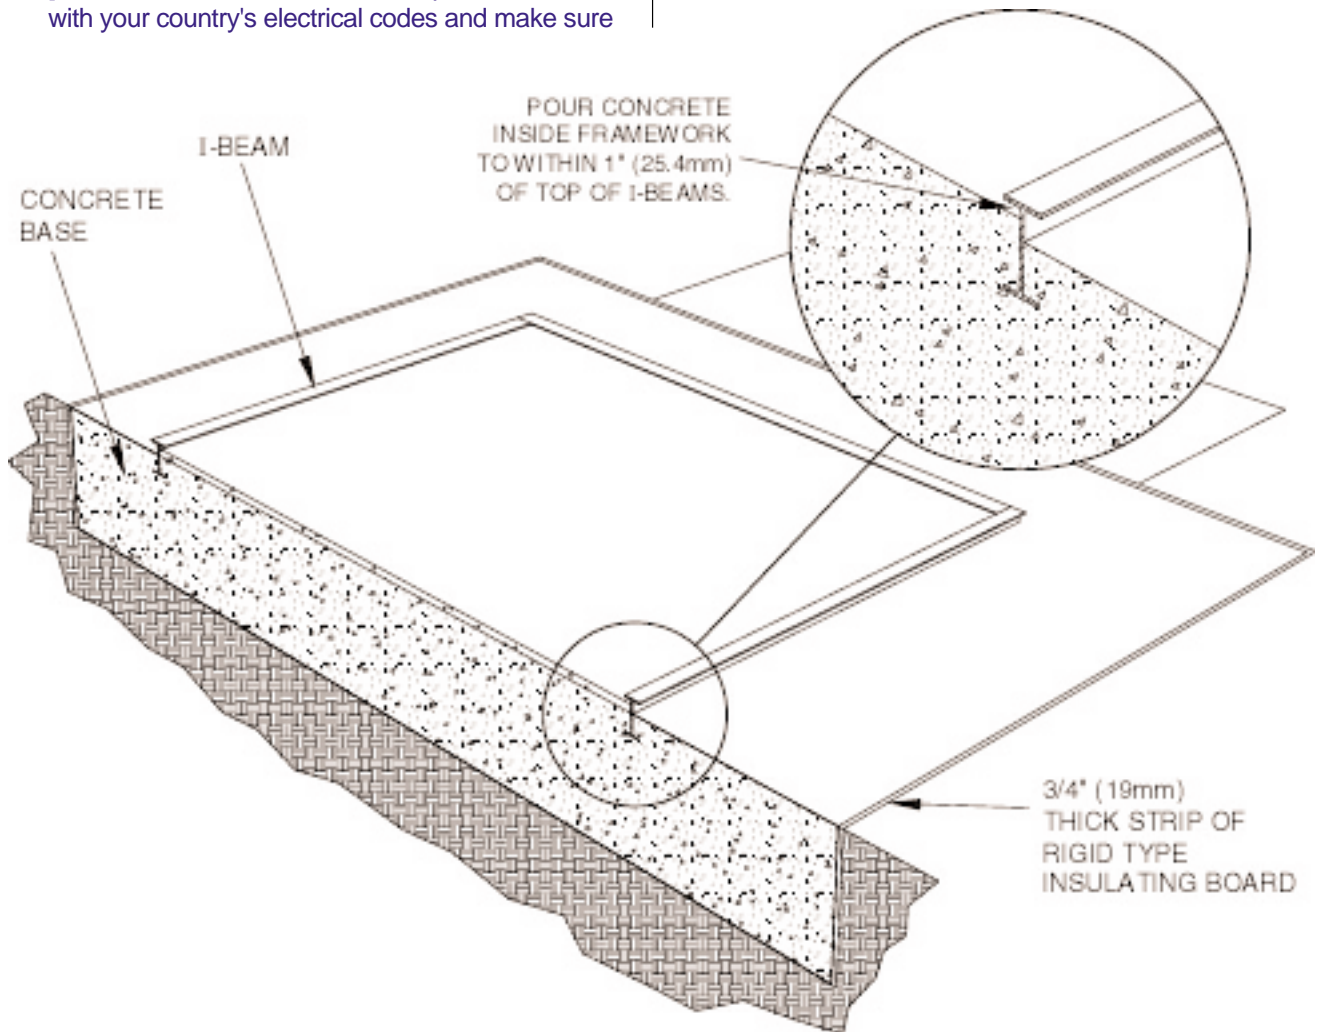

Figure 1.3 3-D VIEW.
12. Once the frame is properly located and leveled, pour concrete inside within 1" [25.4mm] of top of I-beam to allow for machine grouting. Do not pour the concrete up to the top of the beams. This also includes the area of concrete between the I-beams. Refer to figure 1.3.
3. Make sure a 3/4" [19mm] strip of insulation has been placed between the machine foundation and the plant floor to isolate the vibration to the machine foundation (figure 1.3).